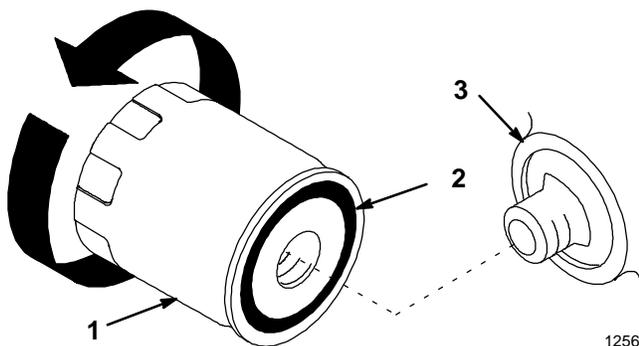

Figure 33
- Change oil filter (Fig. 33).
2. Remove the old filter and wipe the filter adapter (Fig. 33) gasket surface.
3. Apply a thin coat of new oil to the rubber gasket on the replacement filter (Fig. 33).
4. Install the replacement oil filter to the filter adapter. Turn the oil filter clockwise until the rubber gasket contacts the filter adapter, then tighten the filter an additional 1/2 turn (Fig. 33).